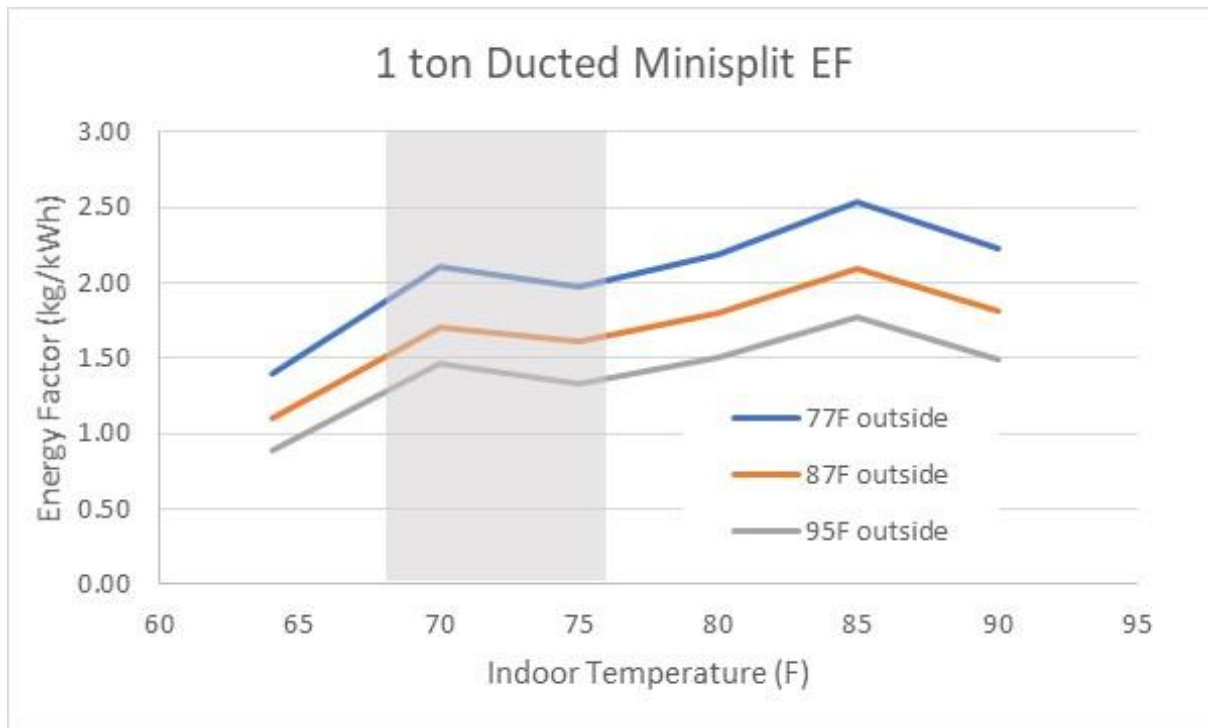
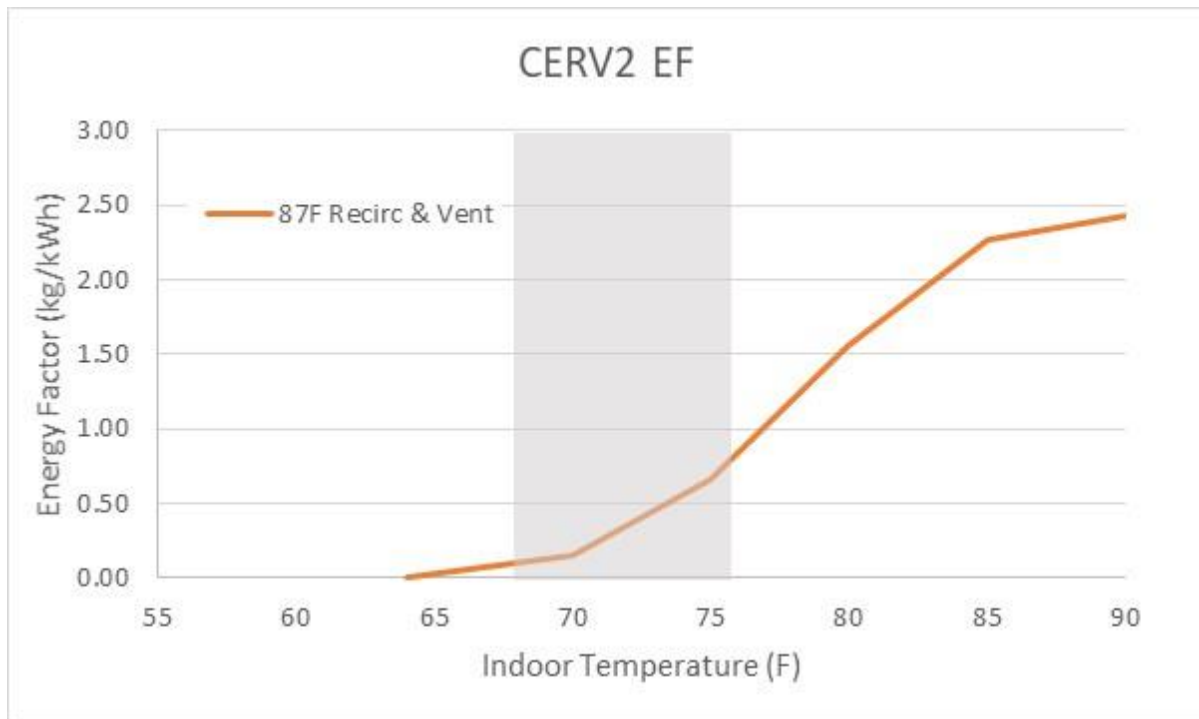

Figure 8 Energy Factor (EF) characteristics of a 1 ton minisplit heat pump.
Figure 14 CERV2 dehumidification Energy Factor (EF) trends.
Figure 8 determines the 1 ton mini-split heat pump's dehumidification performance by calculating its "Energy Factor" (EF), a ratio of the water condensed (kg) per electrical energy (kWh) required. Energy Star ratings require a minimum EF of 2.0 for dehumidifiers. Although much of the data in Figure 8 has an EF less than 2, we will find that an adjusted EF for Energy Star qualified dehumidifiers tends to be lower than the mini-split heat pump's dehumidification efficiency. Also, the mini-split heat pump contributes sensible cooling to the home while a dehumidifier adds heat that must be removed by additional cooling. We will address these considerations more directly in the section on dehumidification.
The CERV2's purpose in life is automated, energy efficient management of indoor air quality, with the added feature of beneficially contributing to moisture control needs. Figure 14 shows the CERV2's performance as a dehumidifier, similar to Figure 8 for the mini-split heat pump. As mentioned, the CERV2 automatically reduces its dehumidification capacity as air temperature to its cooling coils decreases, in parallel with a reduced need for dehumidification capacity. The EF for lower temperatures is low in this range as the CERV2 shifts its energy exchange and cooling capacity to sensible energy.